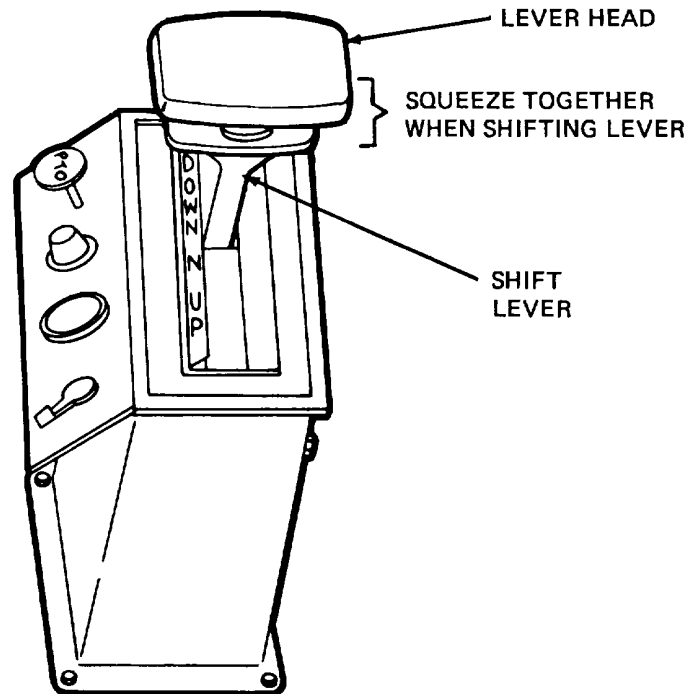

Figure 2-5. Hydraulic Control Lever.
- (1) Clear all personnel from around the dump body.
- (2) Squeeze the hydraulic control lever head together (see fig. 2-5).
- (3) Move the shift lever toward the DOWN position.
- (4) After the dump body is fully lowered, release the lever head and place the